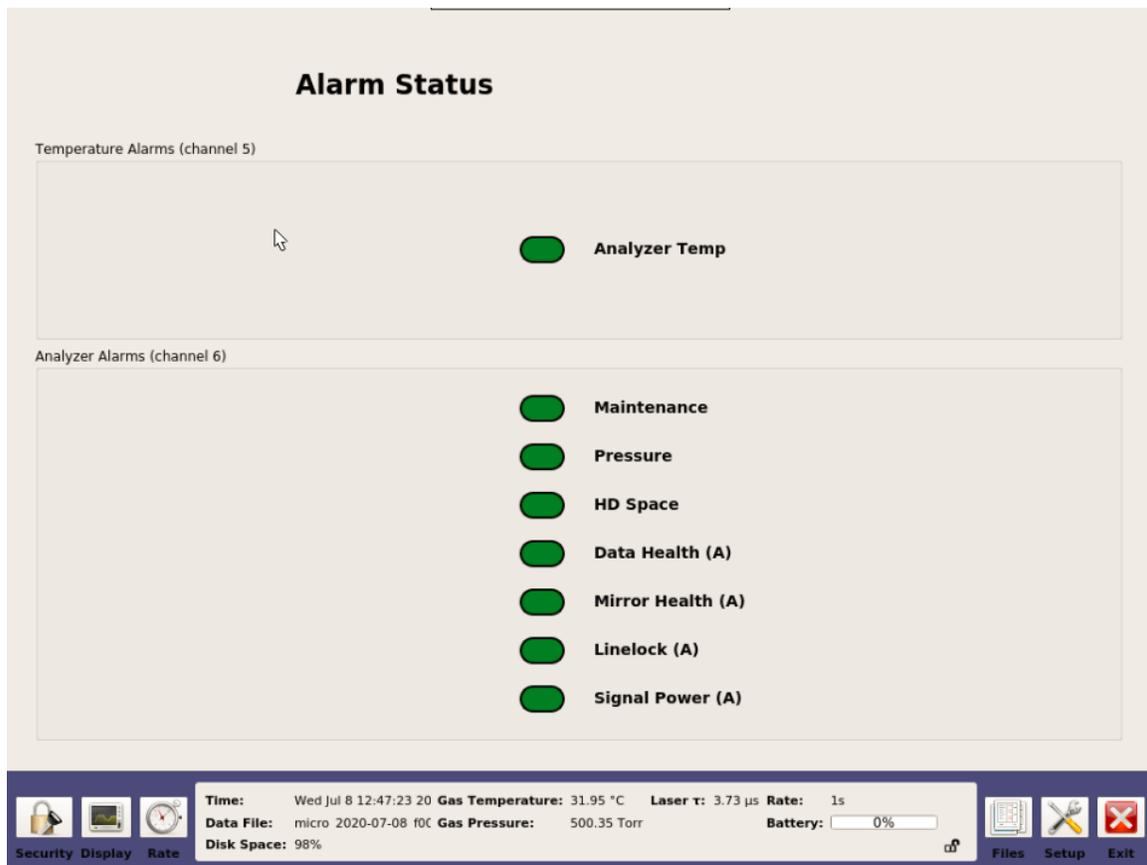
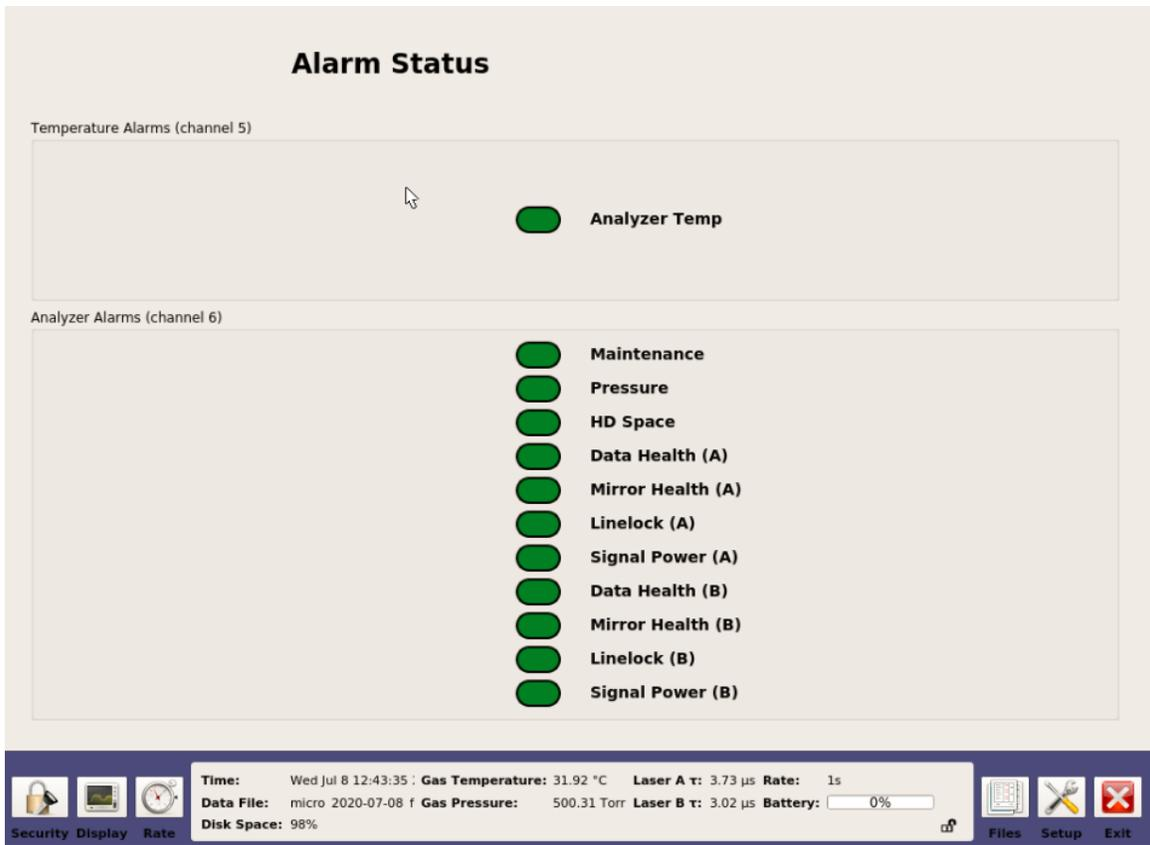

Figure 31: Alarm Status Display – GLA131-GPC
Figure 32: Alarm Status Display – GLA131-GGA
- *Alarm Status* (Figure 31)
The *Alarm Status* display, shown in Figure 31 and Figure 32, indicates the real-time analyzer operational status. The status uses traffic-light color indication. **Green** indicates no problem. **Yellow** indicates the analyzer is out-of-spec or maintenance is soon required. **Red** indicates there is a problem, and maintenance is immediately required. Error messages for each alarm can be displayed by selecting the relevant alarm button: After the button is selected, a pop-up window appears displaying the messages.